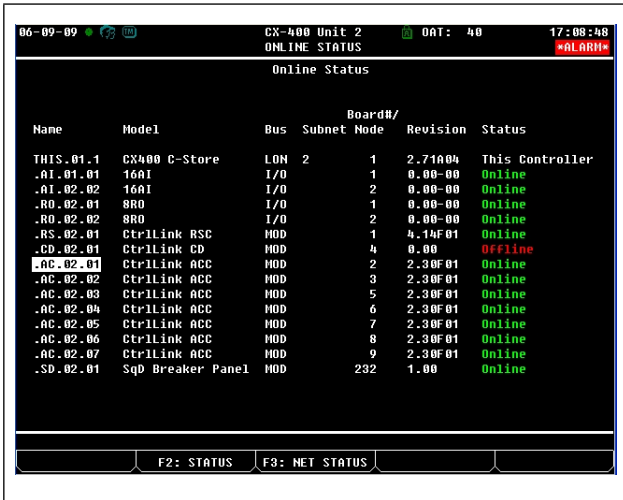

Figure 7-6 - Online Status Screen
8. When finished, press **Esc** to return to the Network Setup menu, then press **1** - **Online Status (Figure 7-6)**. Locate the Control Link ACCs you set up, and look at each device's status in the **Status** field. You will see one of the following messages: